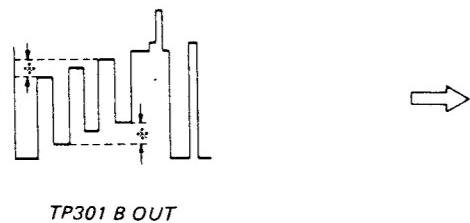

Fig. 23-2
- 5. Adjust RV4 of BD board so that the output waveform as shown in Fig. 23-2.